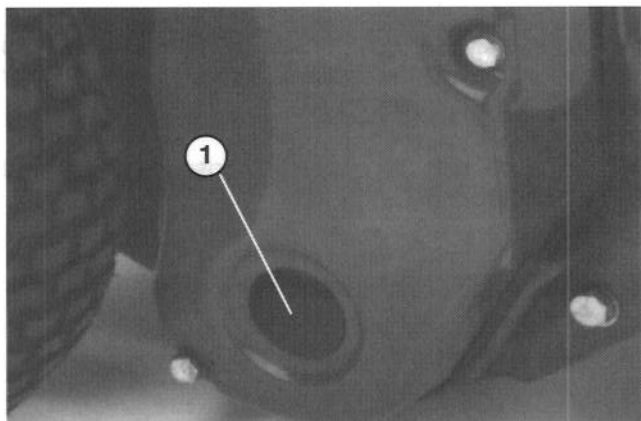

Figure 43
1. Remove plug in right reel drive cover (Fig. 43)